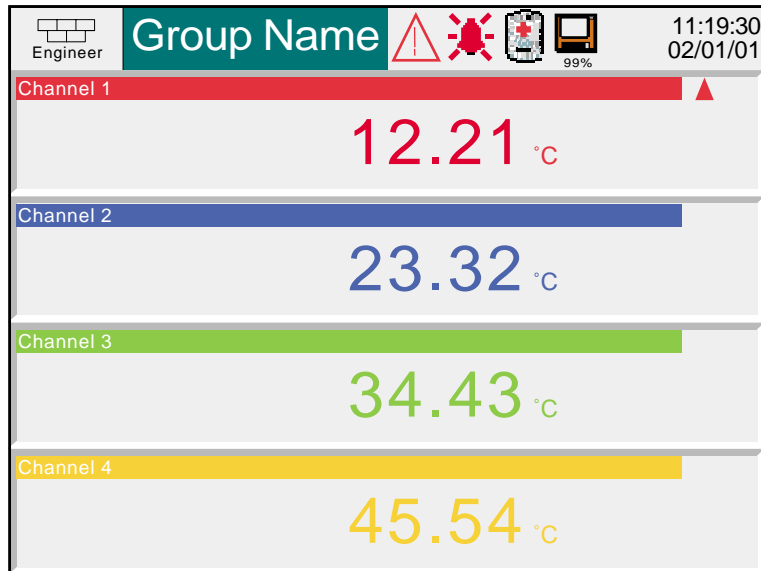

Figure 3.4.5a Numeric display mode (1 to 4 channels)
Entered from Horizontal bargraph mode by means of the root menu 'Cycle' key, this display mode shows the Process Variable (PV) values as digital values. The format (which is automatically selected) is based on the number of channels in the display group. Figures 3.4.5a and 3.4.5b, show typical examples of the one column (up to four channels) and two column versions (five or six channels) of this display mode, respectively. Within each version, the process variable display areas expand or contract to fill the screen. Review mode is not available from this display mode.